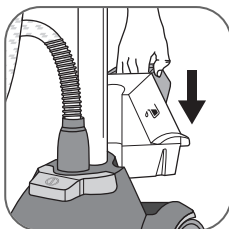

fig. 9
- Place the water tank on the base (fig. 9).